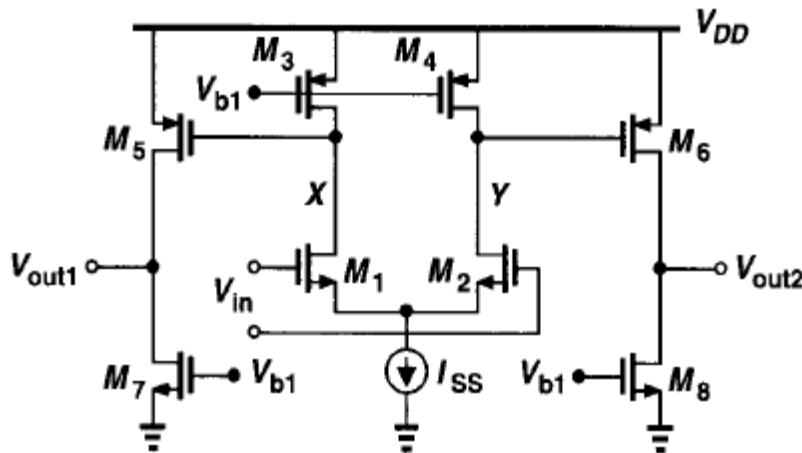

Fig. PS11.1
1. In the two stage op amp of Fig. PS11.1, $W/L_{1-4} = 50/0.5$. Also, $I_{ss} = 0.25$ mA and each output branch is biased at 1mA. $V_{DD} = 3$ V and use the parameters in the table below.